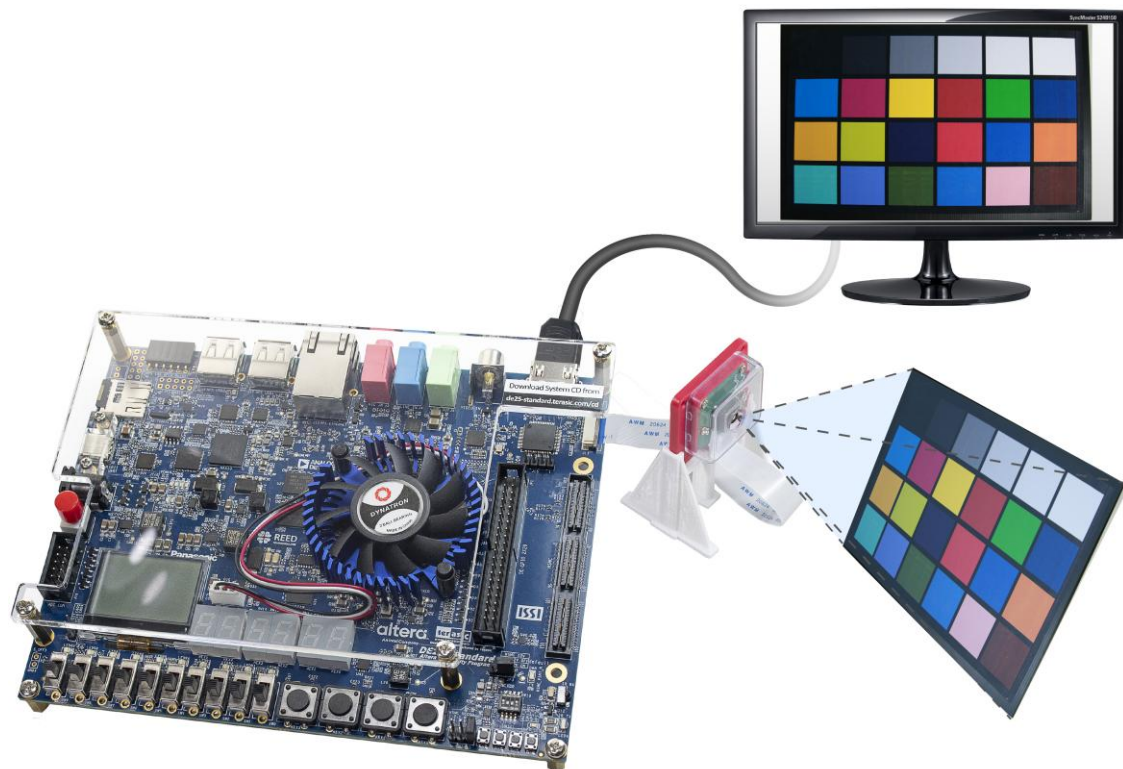

Figure 2-31 VVP_MIPI_CSI2_IMX519 demonstration setup for DE25-Standard
1. Connect a USB Type-C cable between the host PC and the USB connector (J16) on the DE25-Standard board (See Figure 2-31).